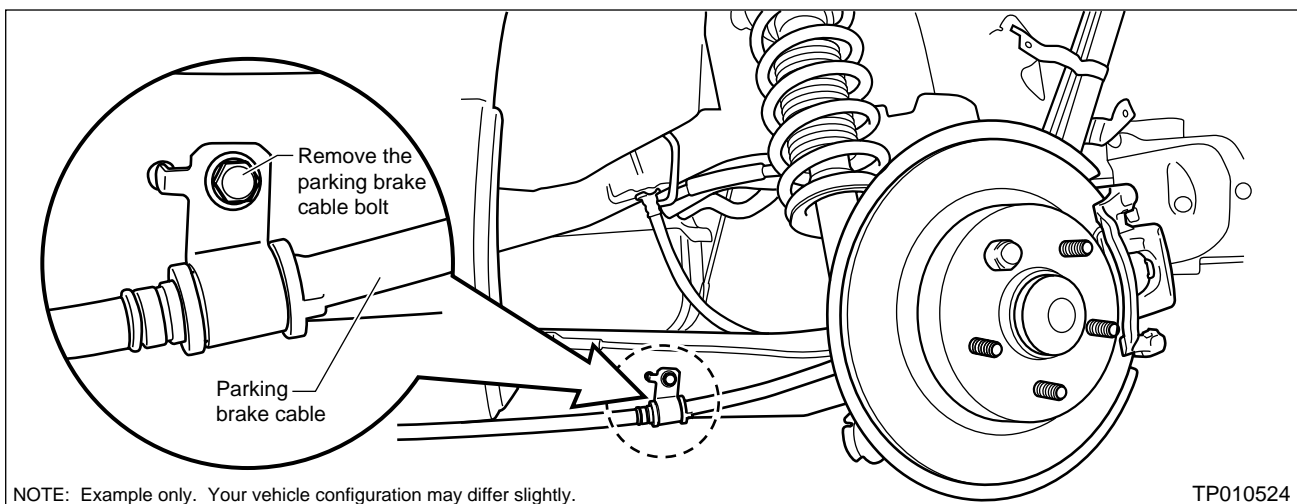

Figure 2
4. Loosen the parking brake cable by removing the parking brake cable bolt (see Figure 2).